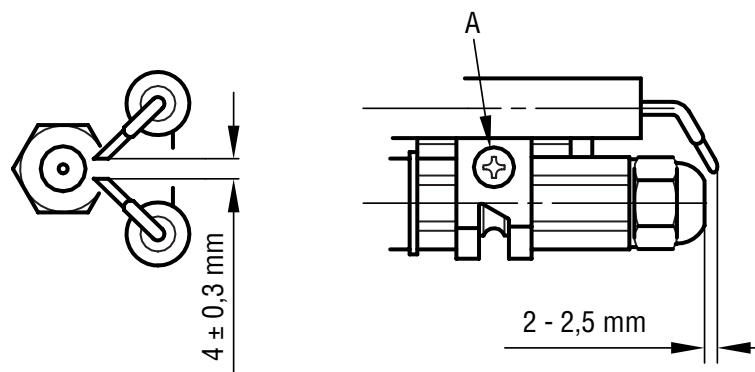

Fig. 17
4.7.2 Cleaning combustion head (fig. 17)
The combustion head is cleaned in the following manner (fig. 17):
- Loosen the fixture screw [A fig. 17] of the electrodes support and remove it.